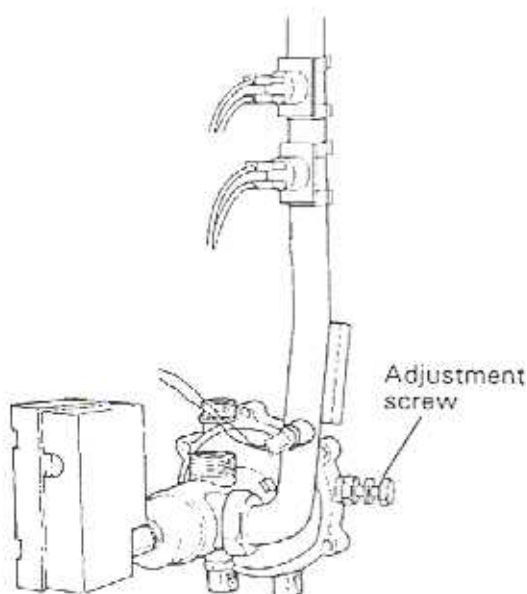

Fig.23
- 6.11.6 To adjust the flow rate ref to fig. 23 and locate the adjustment screw.